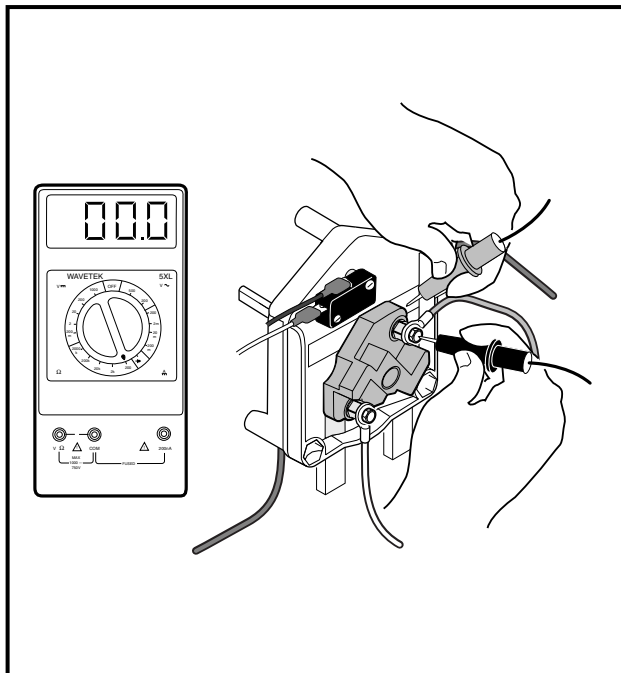

Figure 11-11 Forward/Reverse Switch Test – Step 2.1
- 2.1. With the Forward/Reverse switch in the FORWARD position, place the red (+) probe on the common terminal lug of the switch (with brown wire attached), and place the black (–) probe on the movable contact (with the purple wire attached) on the forward and reverse rotor (**Figure 11-11, Page 11-12**). The reading should be continuity.